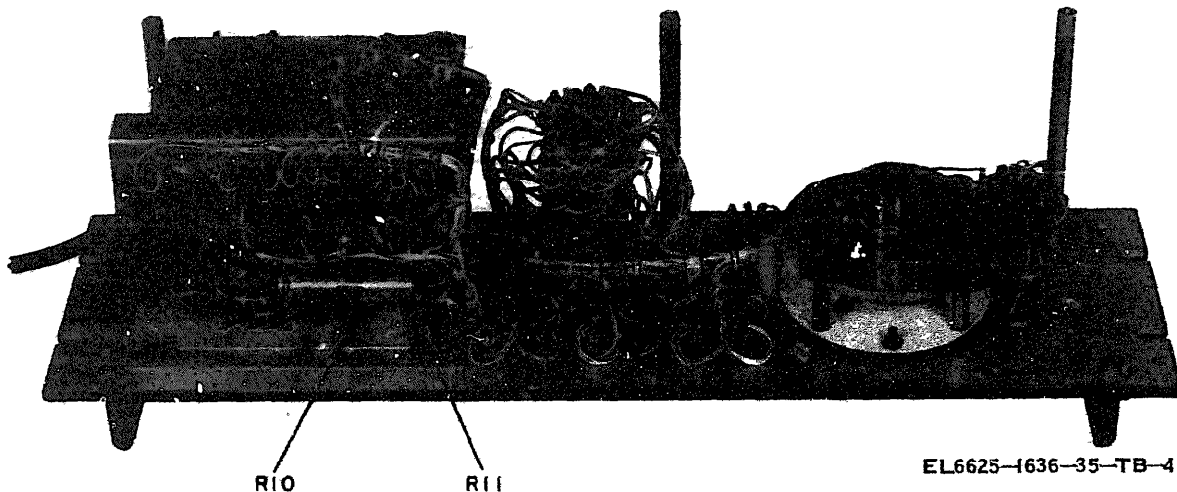

Figure 4 Negative and positive error adjustment
(1) Deenergize test instrument and remove TS-2354/ARM-109 from protective case, if not previously removed.
(2) Energize test instrument and adjust (R11) (fig. 4) for an indication of +0.100 on the electronic voltmeter. (R)
(3) Carefully insert test instrument amplifier in carrying case.
(1) Deenergize test instrument, remove TS-2354/ARM-109 from carrying case, and remove protective case.
(2) Energize test instrument and connect as in (2) above.
(3) Adjust R10 (fig. 4) for an indication of -0.212 Vdc on the electronic voltmeter. (R)
(4) Carefully insert test instrument amplifier panel in carrying case for next check. Do not fasten at this time.